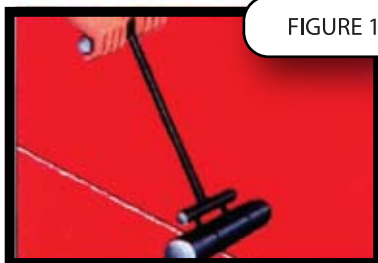

FIGURE 10
**Figure 10** - Join cemented surfaces as quickly as possible before cement dries. For long seams exceeding 6 feet in length, use a weighted, smooth flooring roller to facilitate bonding of material.